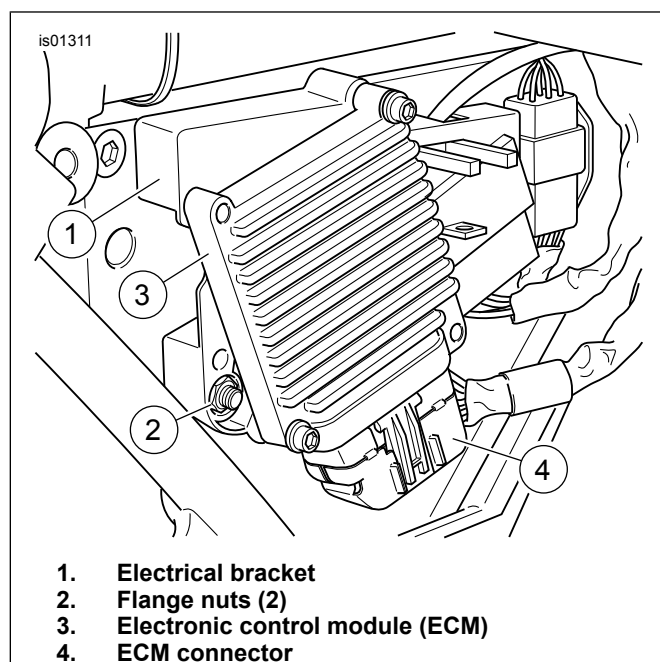

Figure 10. Electrical Bracket (2002-2007 FL Touring Models)
- See Figure 10. Remove the two flange nuts (2) from the electrical bracket (1). Pull the bracket assembly, with the electronic control module (ECM) and connector attached, away from the side of the battery box.